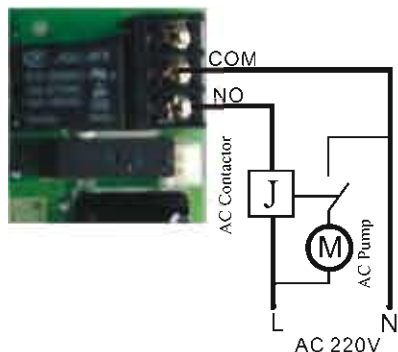

Figure 3-8 Wiring of Booster Pump on Inlet
**Instruction:** If inlet water pressure is less than 0.15MPa, which makes backwash or brine difficult, a booster pump is suggested to be installed on inlet. Control mode b-01. When system in regeneration cycle, booster pump is open, the wiring refer to Figure 3-7. If the booster pump current is bigger than 5A, system need to install a contactor, the wiring refer to Figure3-8